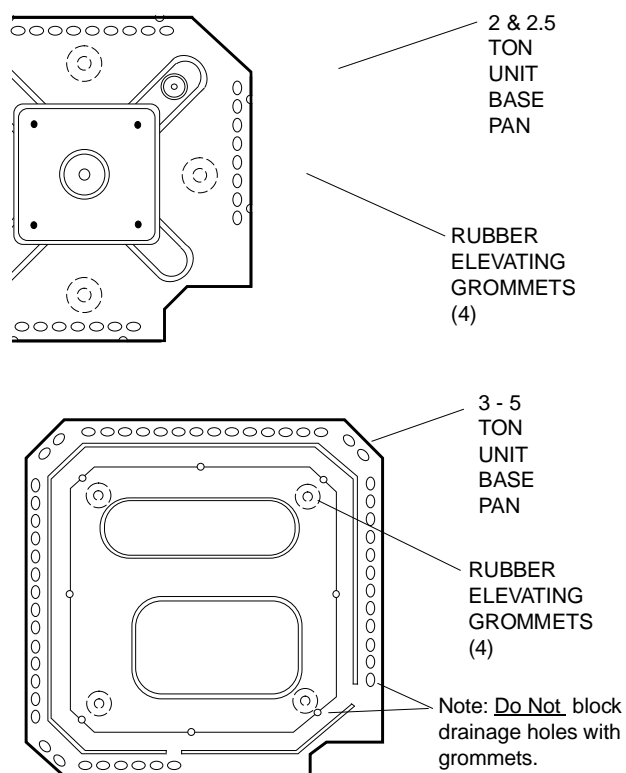

FIGURE 2 - POSITIONING GROMMETS
5. To reduce noise and to enhance drainage, sit unit on (4) rubber elevating grommets provided in bulk packed accessory kit model number 1SG0601. Grommets should be positioned as shown in Figure 2.